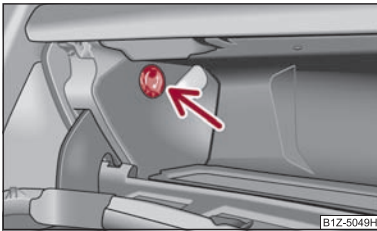

Fig. 89 Storage compartment: Using cooling system
- Open or close the air supply using the control dial ⇒ fig. 89.